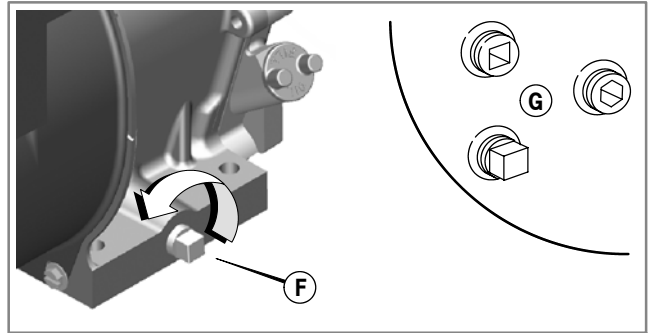

Figure 16: Oil Drain Plug
Remove Oil (Figure 16)
2. Remove the oil drain plug (F). Drain the oil into an appropriate receptacle.
Note: Some of the various types of oil drain plugs (G) are shown in Figure 16.